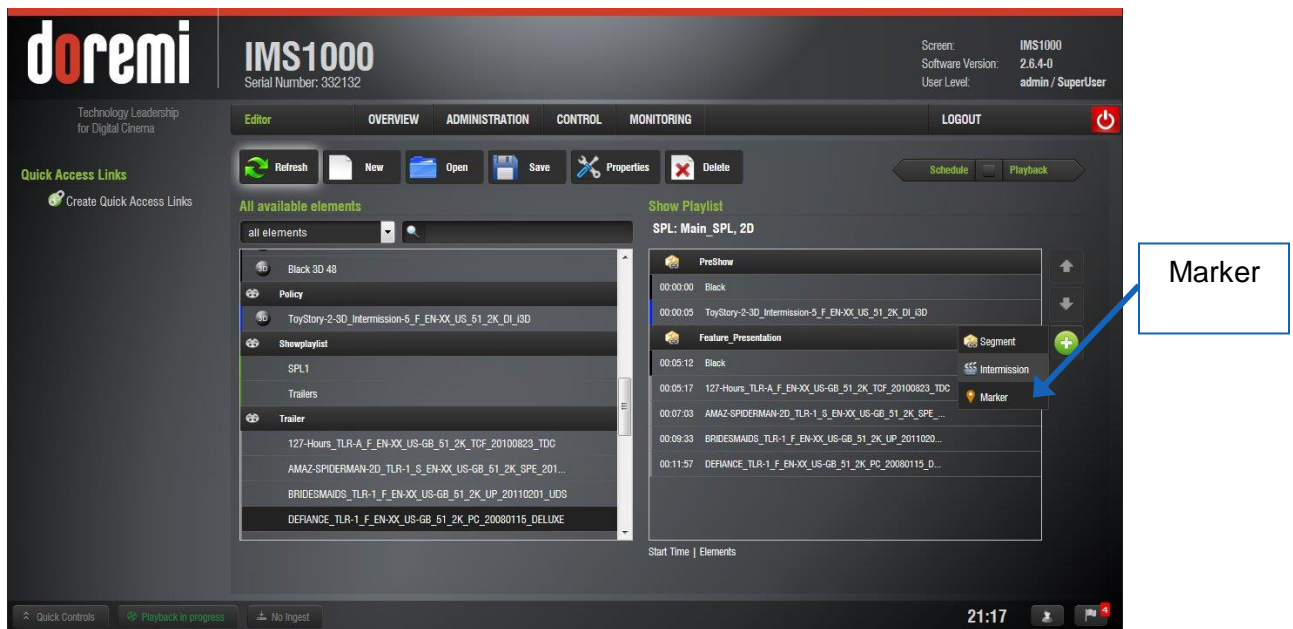

Figure 263: Marker Creation
- To add a marker, in the Intermission SPL, select the CPL that you want to play when the Exit from Intermission macro is executed. Select the Plus (+) button and select Marker (Figure 263).